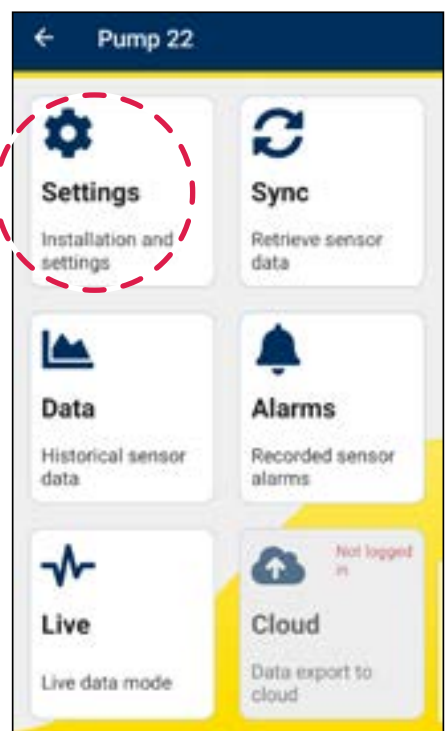

Figure 27
2. Select **Settings** (see figure 27).